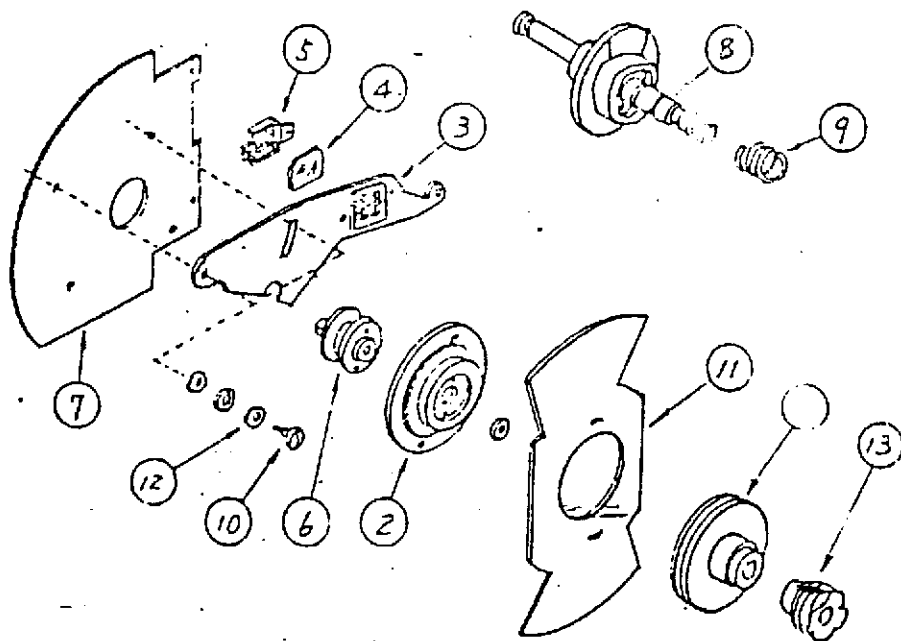

FIG. 7
The projector with the provision of still projection includes the parts shown in Fig.7 instead of the parts shown in Fig.6. In this type, the mechanism is driven by motor through V-belt, and a conical friction clutch (2) is inserted between pulley and main shaft (8). The change lever (3) moves metal screen and heat absorbing filter (4), for still projection.